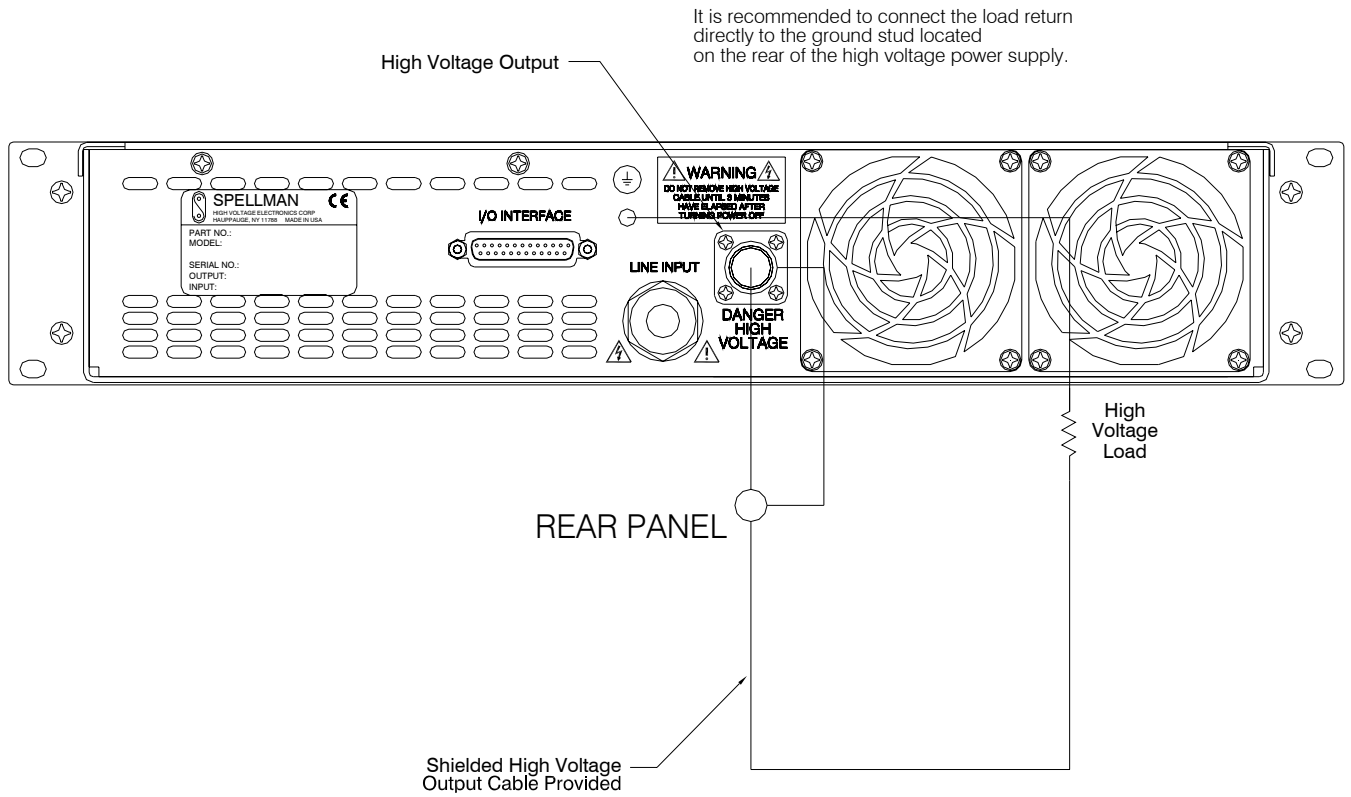

Figure 3.1- Typical Operating Setup
- A) Insure that the Circuit Breaker is in the OFF position (0).
- C) **PROPER GROUNDING TECHNIQUES:** The chassis of high voltage power supplies must be grounded, preferably to a water system ground using copper pipe or other earth ground using the ground stud B1 at the rear of the unit. See Figure 3.1 for a typical operating set-up.